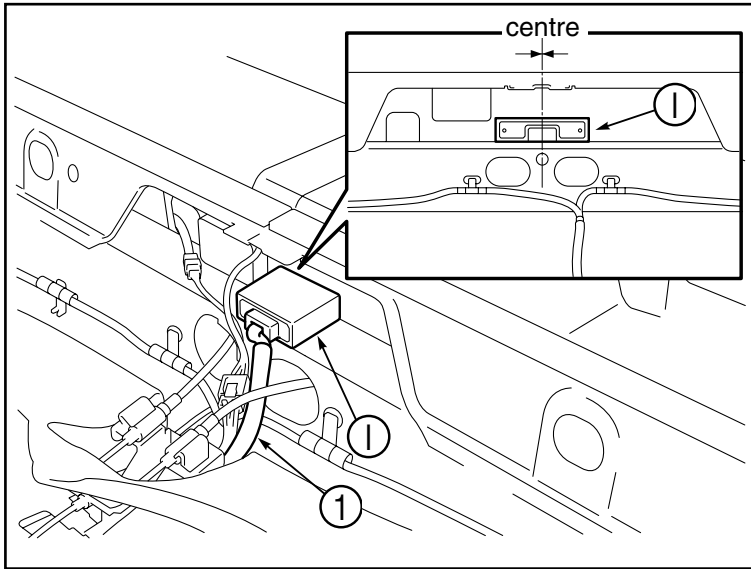

Figure 60
Attach the TVSS ECU ① on the body floor surface as shown in Fig. 60.